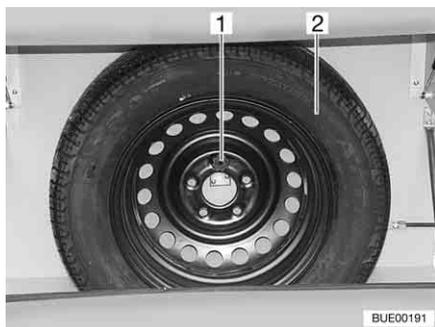

Fig. 234 Spare wheel support
The spare wheel support is fitted in the gas bottle compartment. The spare wheel (Fig. 234,2) is available for a surcharge.
- Undo bolt (Fig. 234,1).
- Remove the spare wheel (Fig. 234,2).